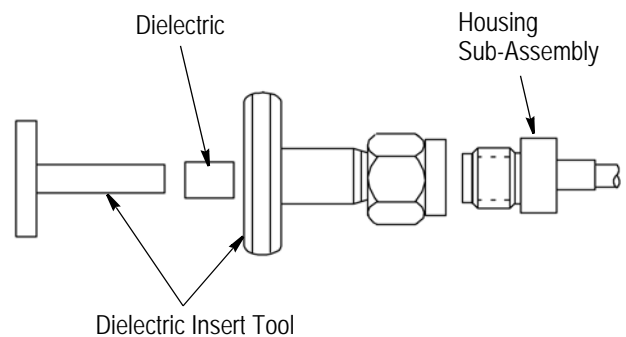

Figure 5
**3.4. Pressing of Dielectric Bushing into Housing Sub-Assembly** (Figure 5)